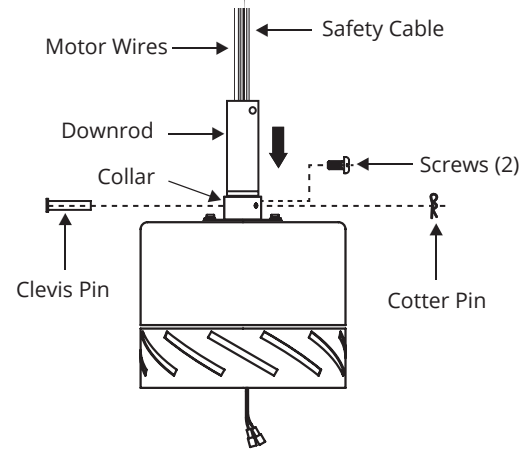

FIGURE 9
4. Remove the clevis pin and cotter pin, and loosen the two collar screws from the motor collar (Fig. 9).
6. Align the holes of downrod and collar and insert the cotter pin and clevis pin. Tighten the two collar screws (Fig. 9).